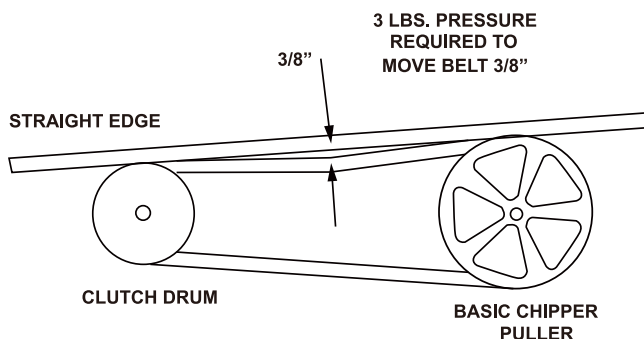

fig.1
The belt on your chipper should deflect $\frac{3}{8}$ " under three pounds of pressure as shown in fig. 1 below. If it doesn't, adjust per the following directions.
3. Tighten or loosen the nut until you have the correct tension as shown in fig. 1.